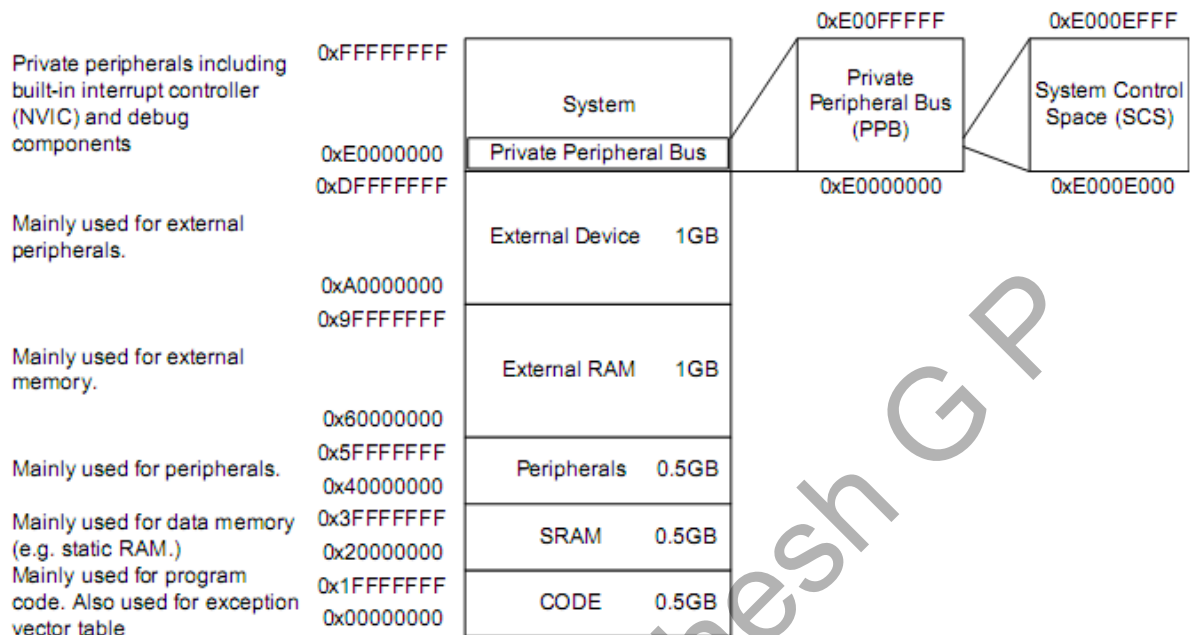

Figure 19: Memory Map
- The 4GB address space of the Cortex-M processors is partitioned into a number of memory regions as shown in figure 19.